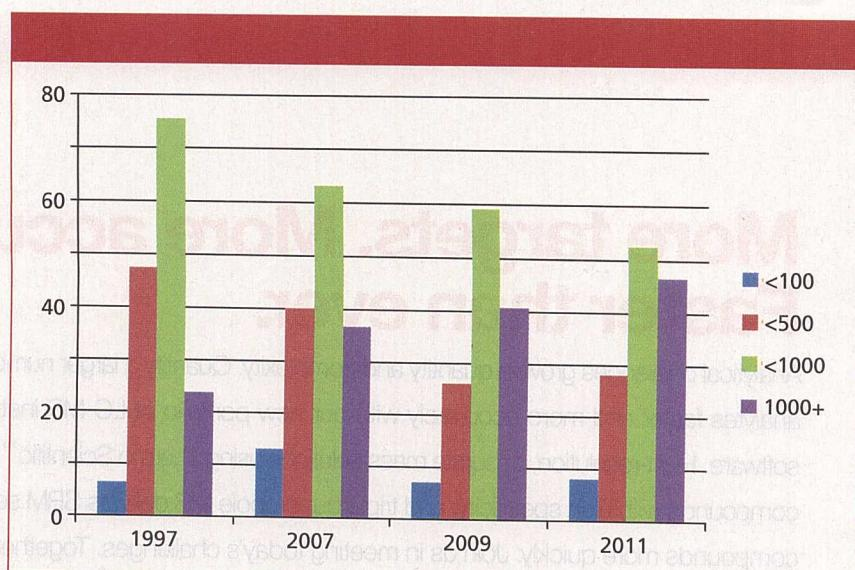

Figure 2: Comparison of the typical number of injections before LC column failure over time. Based on data from reference 1.
To see how experience has changed over time, I've made a comparison plot for four surveys taken from 1997 to 2011 (1), shown in Figure 2. Several trends stand out to me when I examine this plot. First, I noticed the green bars representing the percentage of users who are able to get fewer than 1000 injections made before the column fails. This drops from 76% in 1997 to 53% in 2011; the companion purple bars show that the 1000+ injection experience is trending to larger percentages. I mentioned above that I consider the 500 injection point a kind of "break-even" status for a column. You can see that the number of users that have trouble reaching 500 injections before column failure is trending downward from approximately half in 1997 to about a quarter in 2011. Finally, the number of users with terrible experiences — 100 or fewer injections before column failure — is essentially unchanged, hovering just below 10%.